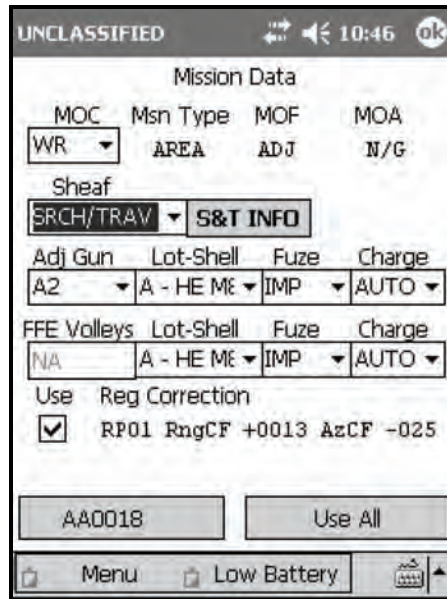

Figure 18-89. Search and Traverse: Mission Data screen.
- (5) Enter the grid mission initialization data as described in paragraph 18-2.
- (6) Select Use All.
- (7) The Mission Data screen (Figure 18-89) displays.